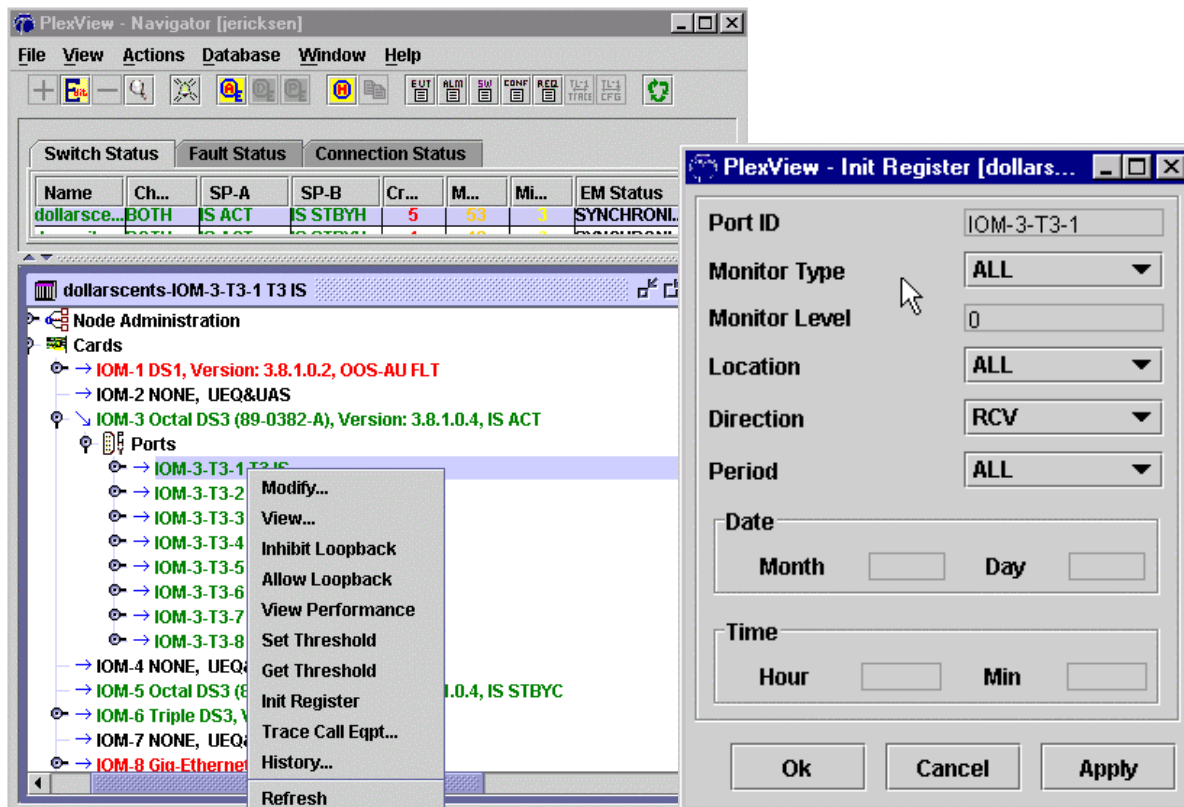

Figure 3. Modify T3 Registers
7. Initialize one or more storage registers or event counters associated with specific T3 ports in the Plexus 9000. Double-click *Switch*, *Switch name*, *Cards*, desired *IOM*, *Ports*.. Right-click desired port, select *Init Register*. Make changes if necessary and then click *Ok* or *Apply*. Refer to Figure 3.